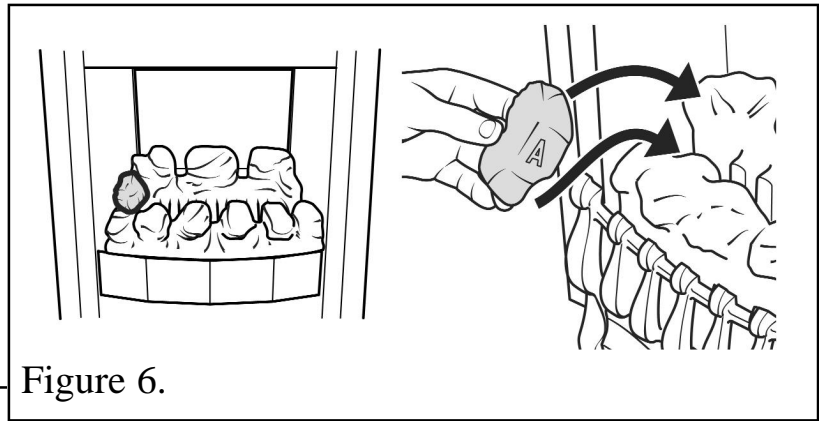

Figure 6.
3. Place a type “A” coal between the front and rear base coals with the letter “A” upright and so that the coal is against the left side of the firebox. See figure 6.